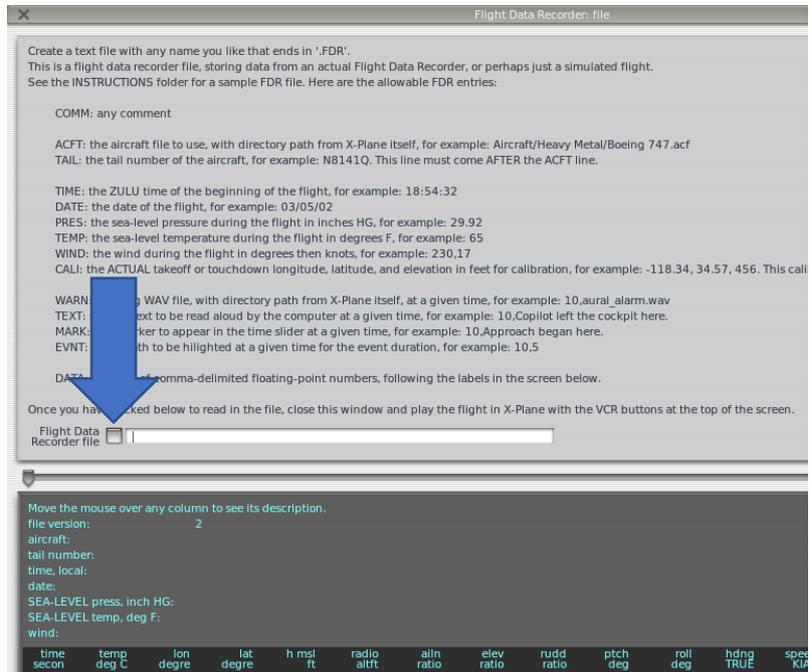

Figure 18: X-Plane Flight Data Recorder window
- 7 X-Plane automatically will open a new window as shown in Figure 18: X-Plane Flight Data Recorder window
- 8 Click the squared checkbox as shown in *Figure 18: X-Plane Flight Data Recorder window* to select a log file.